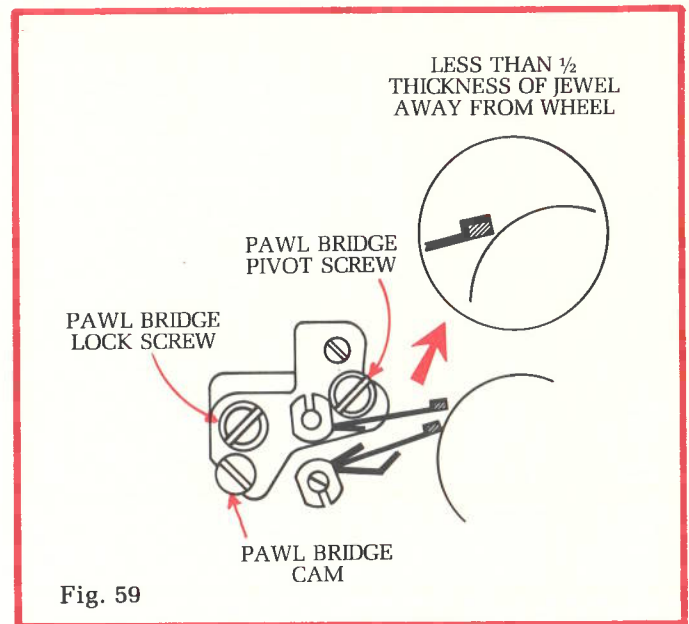

Fig. 59
6. **Pre-Positioning pawl jewel** — loosen pawl bridge lock screw **slightly** — about one-quarter (1/4) turn. Check that the pawl bridge pivot screw is tight. (Fig. 59).
7. Rotate pawl bridge cam until pawl jewel is in its maximum "out" position (maximum direction to disengage pawl jewel from index wheel). The pawl jewel must not be touching the index wheel and must be less than **ONE-HALF (1/2) ITS THICKNESS AWAY FROM THE WHEEL**. The pawl pre-positioning is adjusted using the collet adjusting tool (Fig. 59).
8. **Connecting Test Set** — Connect the meter to the movement using the alligator clips. With Power Cell in the nest of the Test Set, turn rotary switch to “Low Amplitude” position. **With the crown “in”**, if tuning fork does not begin to vibrate, an excess current reading will be indicated on meter of Test Set. Should this occur, tap movement holder lightly and fork will start. With the movement operating correctly the current reading will then drop to about four (4) microamperes.